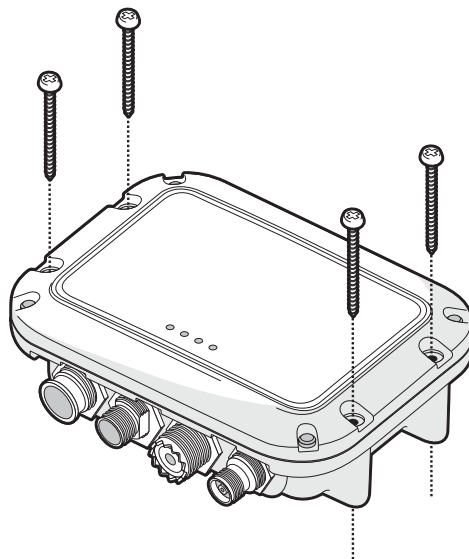

Figure 6 AIS transceiver mounting
- The product is supplied with four self tapping screws for attachment of the AIS transceiver to a suitable surface. Please refer to Figure 6 for guidance.